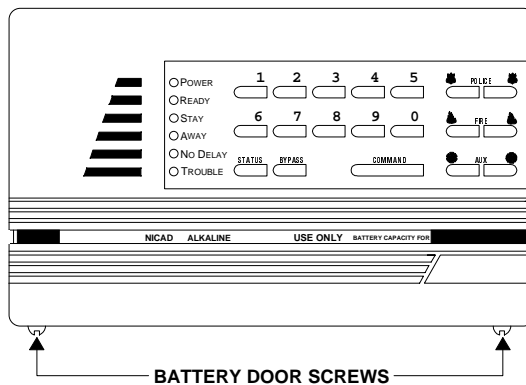

Figure 5. Loosen the two battery door screws
2. Loosen the two screws on the bottom of the panel until you are able to slide the door down and out (see Figure 5). Two full turns should be enough to allow you to remove the battery door without removing the screws completely.